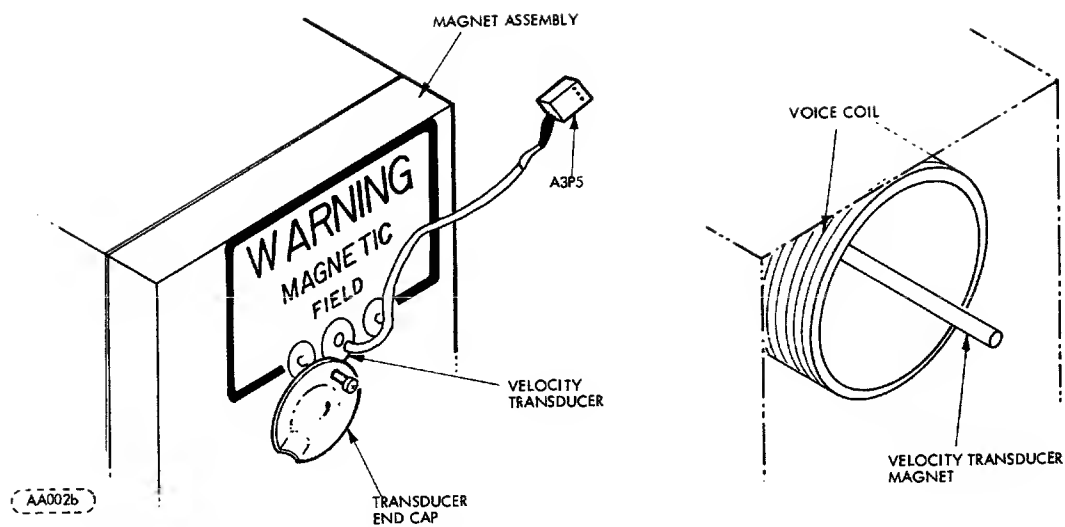

FIGURE 6-2. VELOCITY TRANSDUCER LOCATION
12. Remove velocity transducer end cap and velocity transducer (see Figure 6-2 and 6-10).
8. Install velocity transducer and velocity transducer end cap (see Figure 6-2).